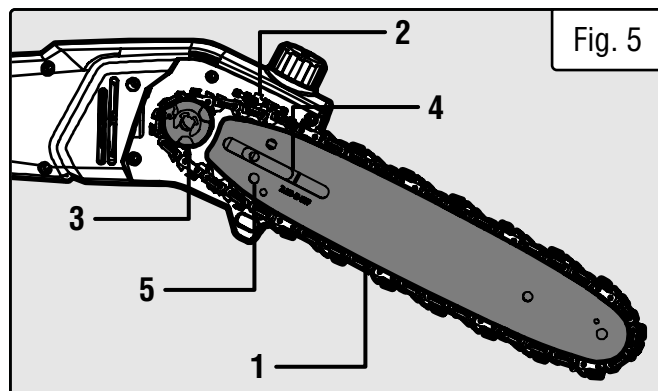

Fig. 5
3. While wearing protective gloves, wrap the saw chain around the guide bar (Fig. 5 - 1), making sure that the teeth are aimed in the direction of rotation (Fig. 5 - 2). The chain should be properly set in the slot running along the entire outside edge of the guide bar.
4. Place the saw chain around the sprocket (Fig. 5 - 3) and guide bar (Fig. 5 - 4), ensuring the chain's drive links fit securely into the guide bar's groove.
5. While holding the bar still, place the cover back onto the saw. Tighten the cover release knob until it is snug but not fully tightened, allowing for tension adjustment before final tightening. Ensure that the tensioning pin on the back of the cover sits inside the tensioning hole (Fig. 5 - 5). Fully tighten the cover release knob.